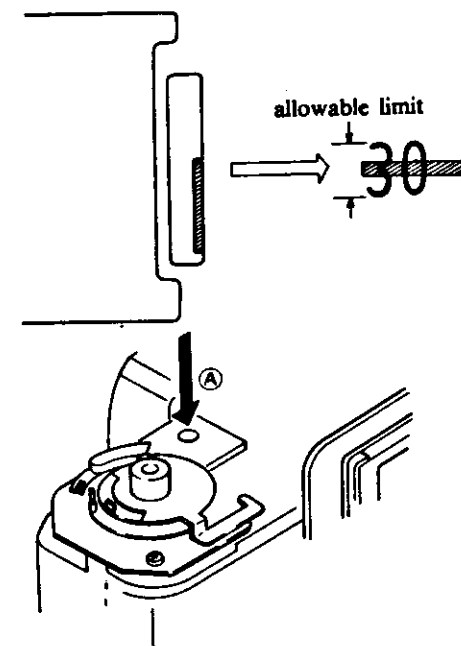

Fig. 57
6 LCD mark (see Fig. 57)
- 5) When the SHUTTER SCALE DISPLAY is out of place, turn the SCREW (A) for adjusting.
- 6) See Fig. 57 for allowable limit of the SHUTTER SCALE DISPLAY.